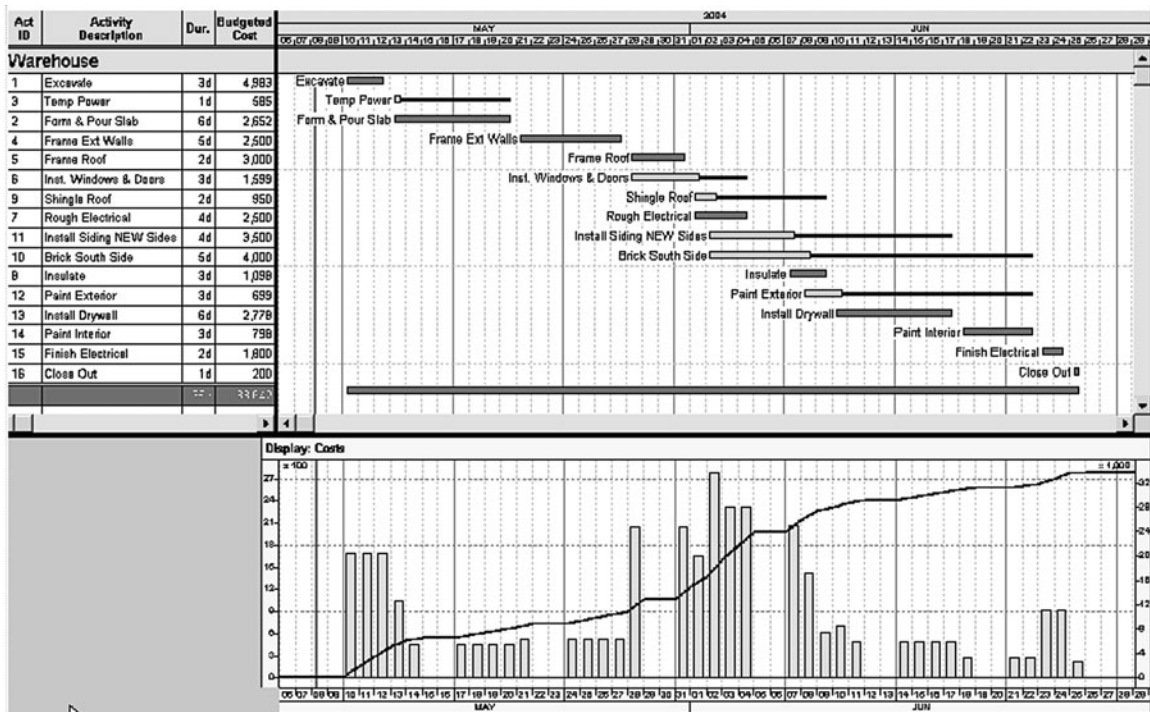

FIGURE 21.19 Cash-loaded schedule for the warehouse project
- To view the Resource Profile at the bottom of the computer screen, click on **View** and select **Resource Profile**, or click on the Resource Profile icon . Then choose **ACTVALUE** in the bottom left of the Resource Profile window. Next, press the **Format . . .** button and select the **Display** tab. In the **Display** box, select **Budget, Calculate Total** and show the **timescale with Day intervals** in order to get daily cash flow. (Normally you would probably want monthly intervals, but for this little project we will choose daily intervals.) Select the **Profile** tab and **Show the histogram as Bars, Side by side** and also **Show the total cumulative curve** and **OK** the window. You may need to slide the vertical bold line separating the columns from the bars to the left to display more of the bar chart in order to see the cash flow histogram. Also, if you want to see daily costs, change the timescale of the bar chart to show each day. The cash-loaded schedule should look similar to Figure 21.19.
The vertical bars in Figure 21.19 show the daily cash flow with the values on the left side, which you notice is multiplied by 100. The cumulative activity value is shown as a progress S-curve with the values on the right side, which you notice is multiplied by 1,000. If you place the mouse arrow on a vertical bar and left-click the mouse, you see the periodic costs for that time period. Right-click, and you see the total accumulative costs up to that date.